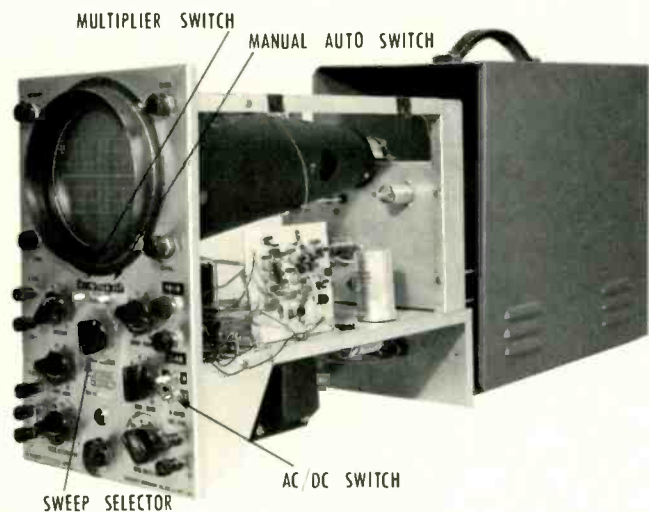

Fig. 1 — Converted EICO model 460 scope.
■ You can easily install a triggered-sweep circuit in your standard service scope. Using transistor circuits, you can put the entire unit inside your present scope cabinet. A converted EICO 460 scope is shown in Fig. 1.